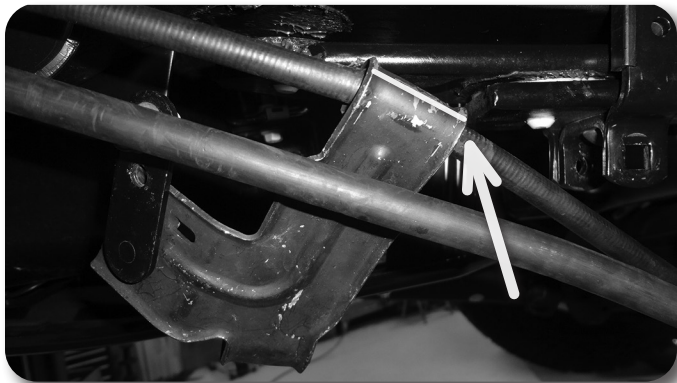

Figure 2
14. Cut the bracket for the E-brake cable that is going to the passenger side of the vehicle in order to release the cable from the bracket. See **Figure 2** for which bracket and where to cut. It is easiest to cut most of the way through the steel and then bend the flange up to release the cable from the bracket. Be careful not to cut the E-brake cable!